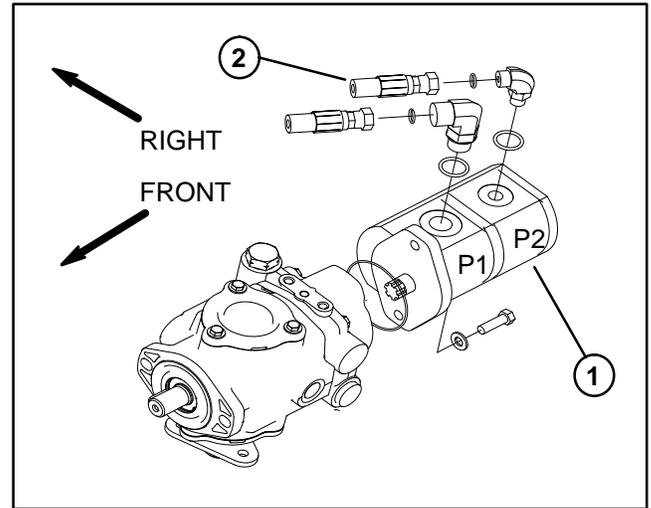

Figure 39
3. Disconnect hose connection on gear pump (P2) leading to the steering control valve (Fig. 39).